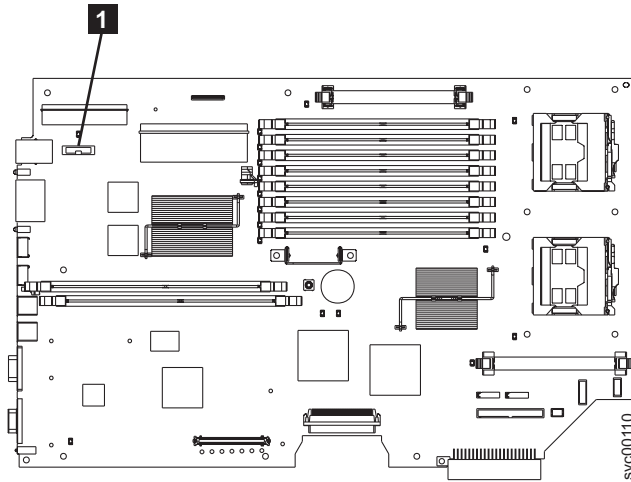

Figure 148. Location of the CMOS battery on the SAN Volume Controller 2145-8F2 or the SAN Volume Controller 2145-8F4
1. Insert the new battery in the battery socket. Figure 148 on page 140 shows the location (1) of the battery socket.